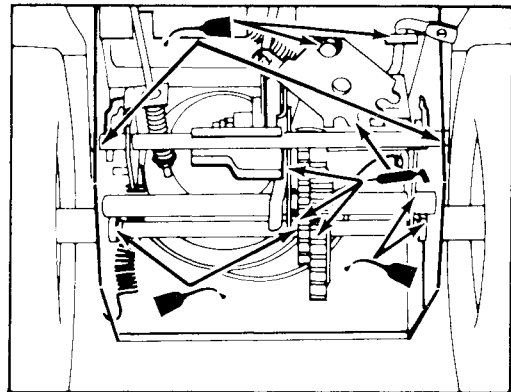

Figure 18
3. Lightly lubricate points shown with SAE 10W-40 oil or grease (Fig. 18). Wipe up any excess oil or grease.